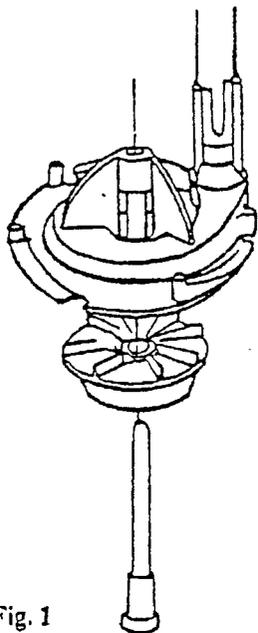

Fig. 1
3. Lock spray tube into the pump cover. Wet pump cover with warm water for ease of insertion or removal of spray tube (see Fig. 1).